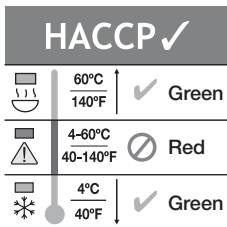

Figure 7
- The Red LED indicator light is displayed when temperatures are within the HACCP “Danger Zone” of 4°C to 60°C (40°F to 140°F) where microbe growth occurs most rapidly (**Figure 7**).